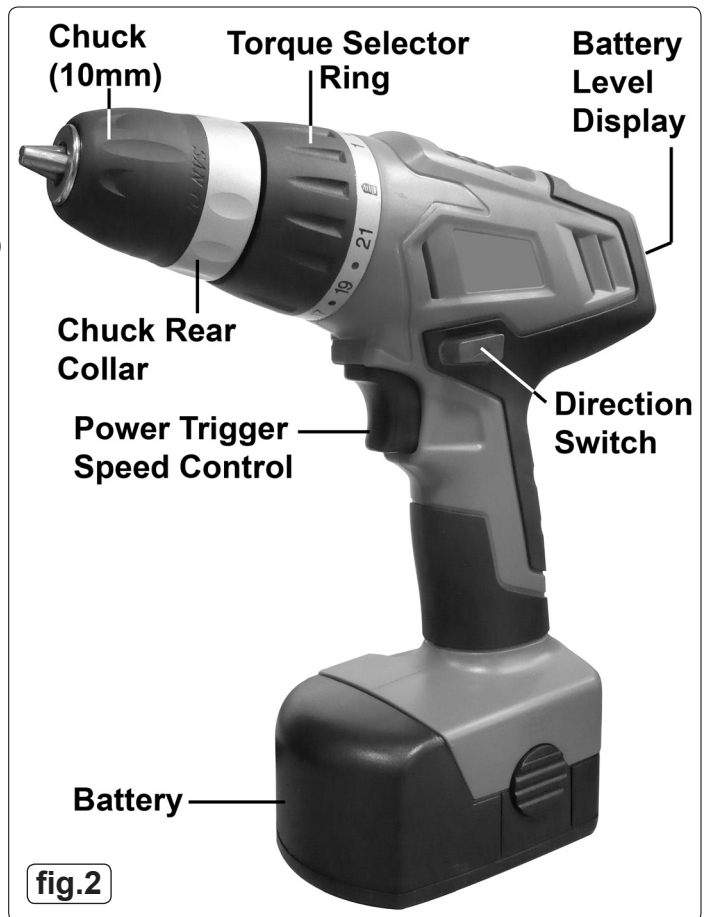

fig.2
- 3.2.1. Ensure the direction switch is in the mid (lock) position. Open the chuck by holding the rear collar and turning the front chuck collar (See fig.2).
- 3.2.4. To select torque or drill setting, twist the torque selector ring to the required setting - from 1 (the lowest) to 21 (the highest) for torque setting or to the drill symbol for drilling. (See fig.2).